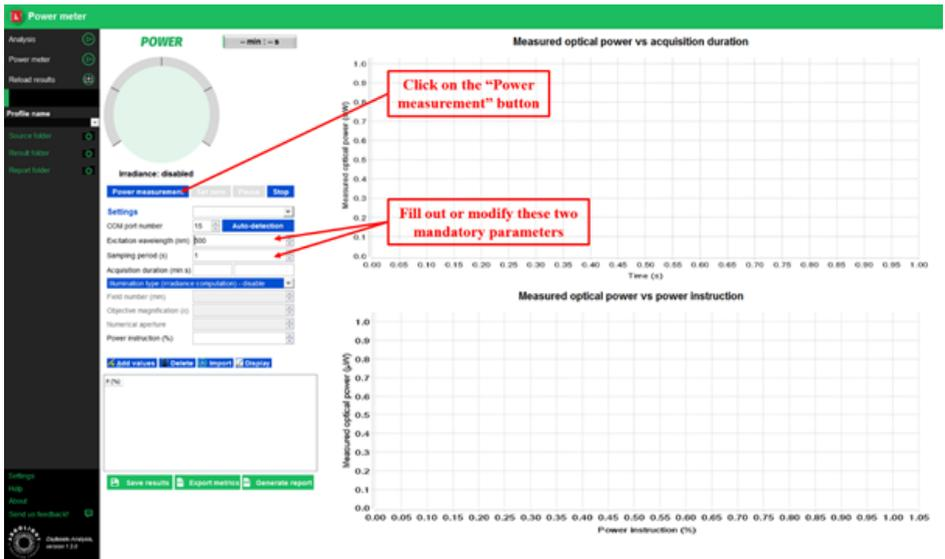

Fig.23: User interface for optical power measurement
- Click on the “Power measurement” button (cf. Figure 23).